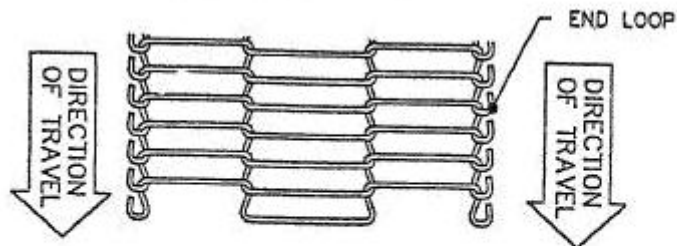

Figure 17
- A. Slip the wire belt over the conveyor sides. Make sure that the smooth side of the belt is out and that the hooks on the wire belt are going in the direction shown in **Figure 17**.
7. Reinstall the batter wheel; make sure the hooks on the belt are going in the direction shown in **Figure 17**.